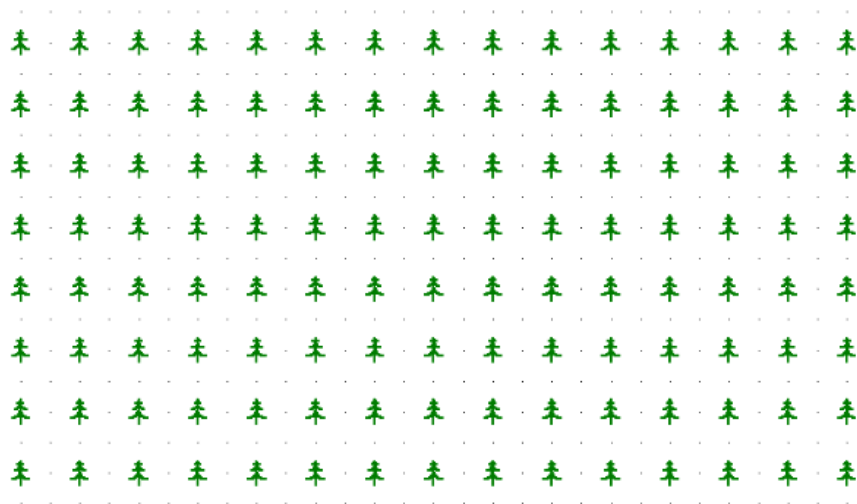

Figure 4-87
2. Place a symbol on a grid point at the top left of the screen. Select *Modify|Copy|Array* and, moving the cursor over the symbol just placed, click the mouse. In the dialog enter **14** as the “Number of Copies” and **14** as the “Number of Rows” and click [OK]. Click on the grid point where the tree is placed as the reference point. Drag the ghosted symbols to the right of the original symbol and left click. Then drag the cursor down at right angles to the previous ghosted row of trees and left click. You now have a block of trees 14 x 15. See Figure 4-87.